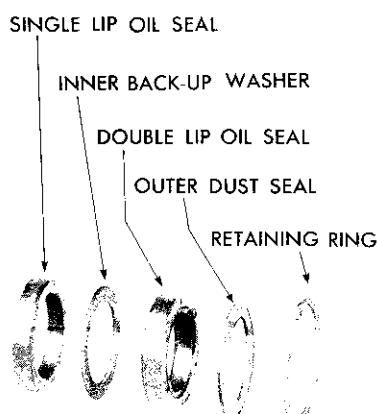
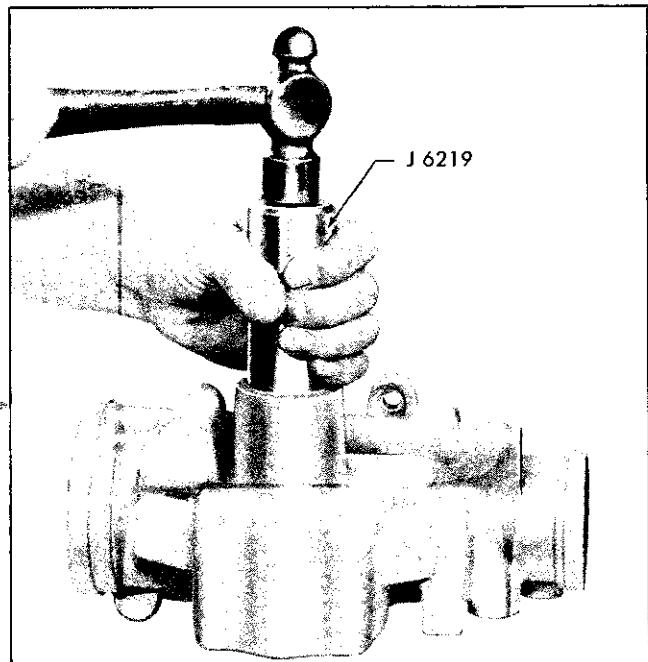

Fig. 9-61 Pitman Shaft Seals and Washers
Fig. 9-62 Installing Pitman Shaft Seals Using J 6219
3. Lubricate and install pitman shaft seals; single lip seal, inner back-up washer, double lip seal, outer dust seal and retaining ring in housing bore (Fig. 9-61). Use tool J 6219 (Fig. 9-62) for seals and Truarc pliers for retaining ring. Make sure seal